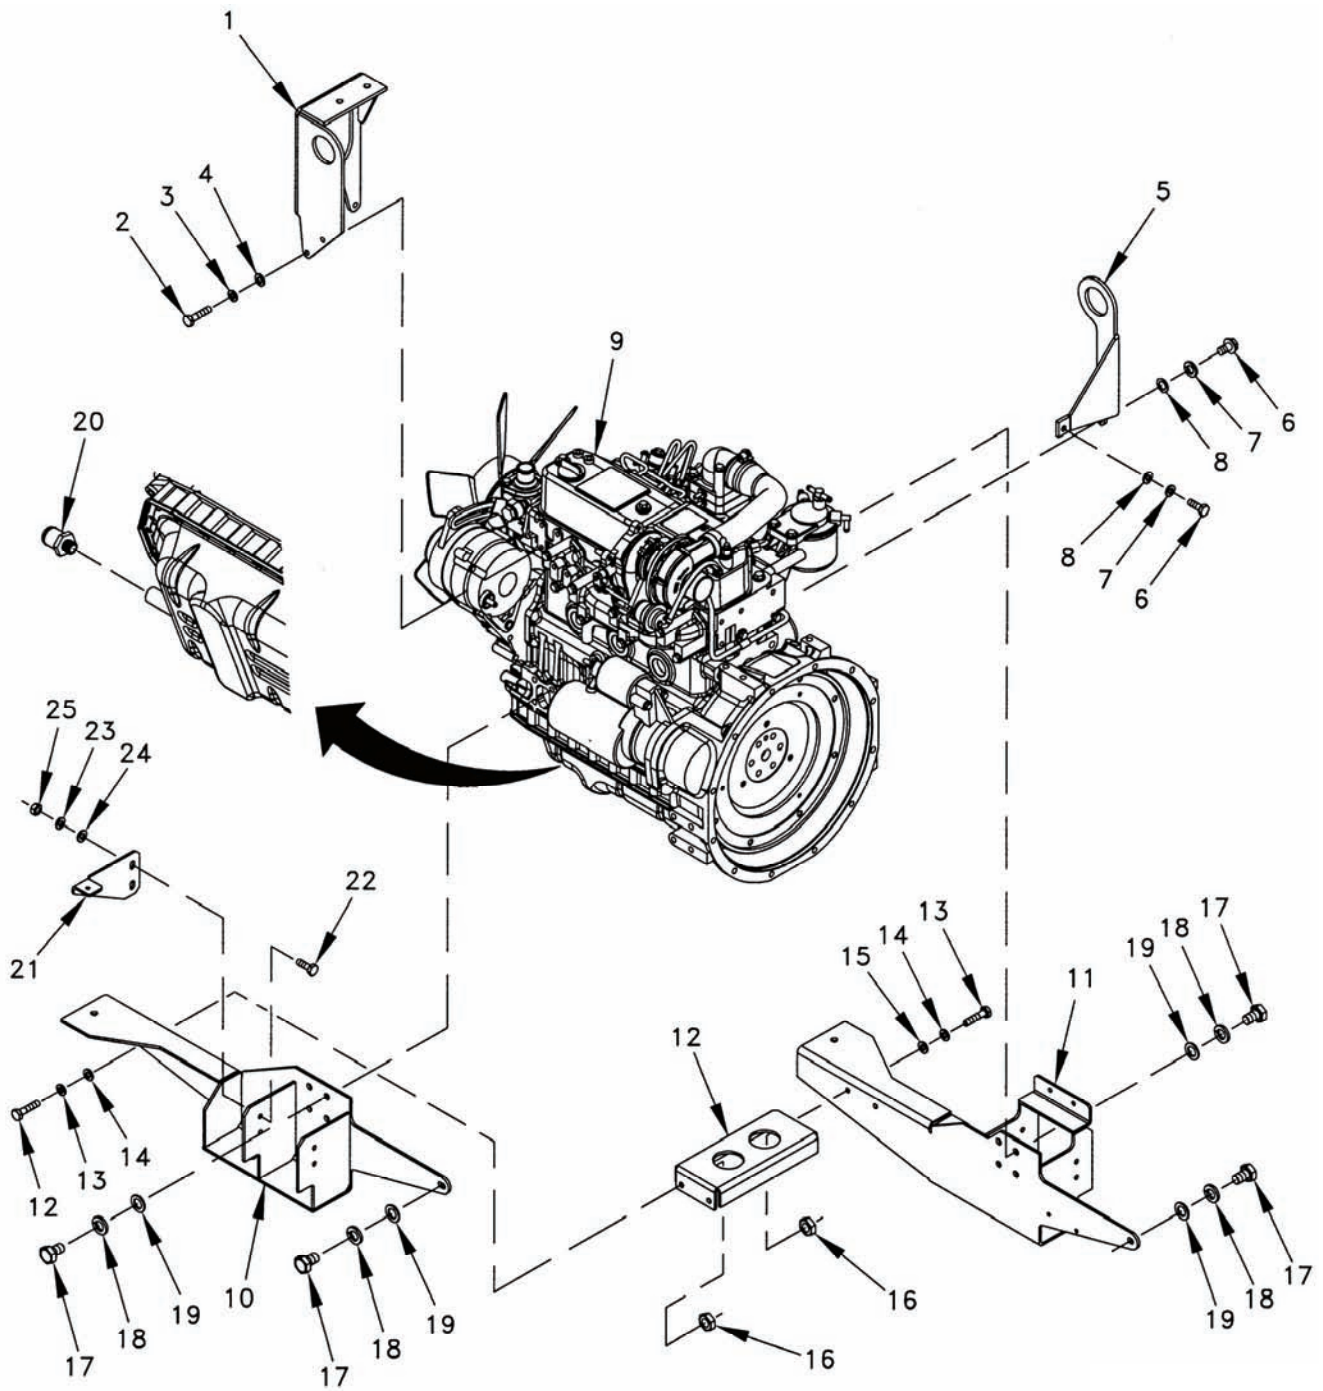

Figure 5-21. Engine Support Assembly.
- b. Install upper radiator support (1, Figure 5-21) (Item 14, Table 5-1) using three screws (2) (Item 52, Table 5-1), lock washers (3) (Item 55, Table 5-1), and flat washers (4) (Item 57, Table 5-1).
- c. Install rear lifting ring (5) (Item 18, Table 5-1) using three screws (6) (Item 52, Table 5-1), lock washers (7) (Item 55, Table 5-1), and flat washers (8) (Item 57, Table 5-1).